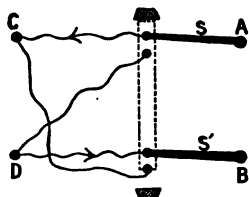

Fig. 245.
15. A current reverser is easily made by arranging two switches, S and S' , as shown in Fig. 245, between two sets of binding posts, AB and CD .